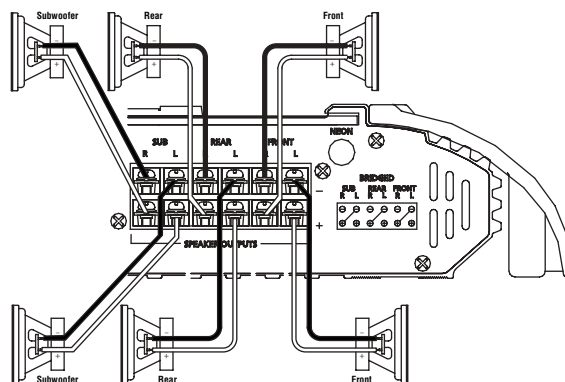

Figure 9. 6-Channel operation: GT0755.6 amplifier driving full-range front and rear speakers and a pair of subwoofers.
The GT0755.6 can be configured for 6-channel, 5-channel or 3-channel operation, as shown in Figures 9 through 11.
NOTE: For simplicity, Figures 9 through 11 do not show power, remote and input connections.
Figure 10. 5-Channel operation: The same as Figure 9, with the subwoofer output bridged to drive a single 4-ohm subwoofer, providing the speaker with more power.
5. For each tube, align both clips so the square ends slide onto an exposed extrusion edge, as shown in Figure 9. Do not cover any screw holes. When installed correctly, each neon tube will sit under an extrusion and not be visible when viewed from directly above.